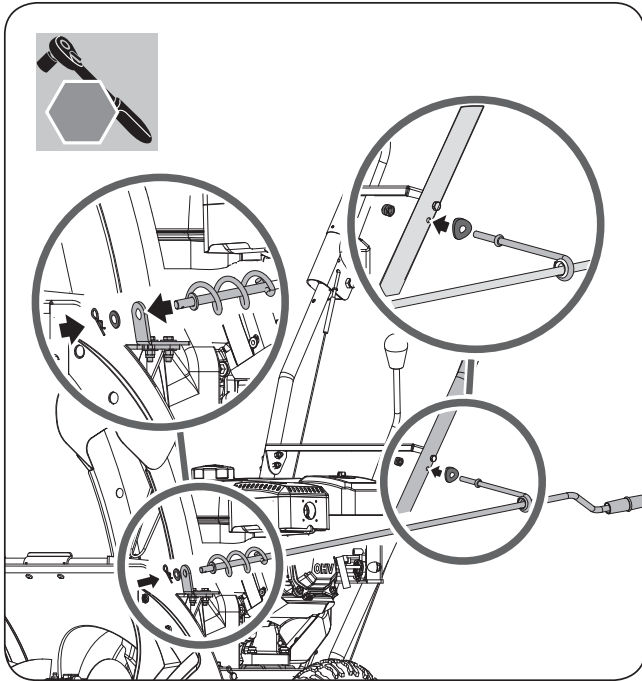

Figure 8a
3. Secure the spiral end on the chute bracket by sliding on the flat washer and clevis pin. (See Figure 8a)